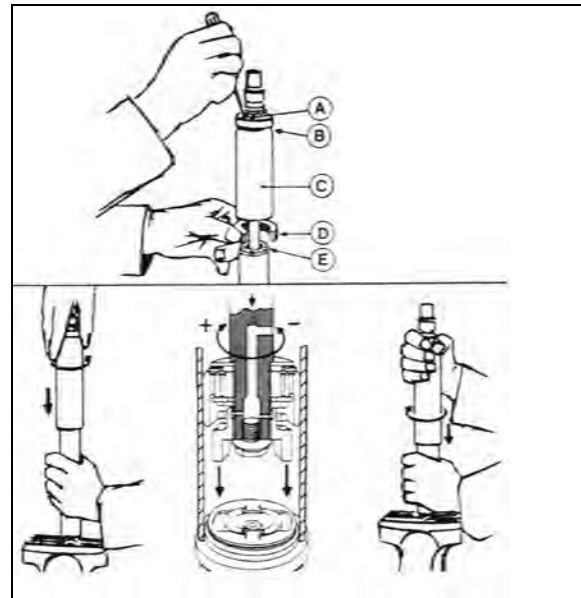

FIGURE 54: DAMPER
To adjust opening and closing cycle speed on damper (Figure 54):
2. Fully close the damper while turning the dust cap or piston rod slowly CCW until it is felt that the cams of the adjusting nut engage in the recesses of the foot valve assembly (Figure 54).
*In Figure 54, if there is an indentation (B) in the dust cap (C) and the cover shows two holes (A), the damper is fitted with a bump rubber (D). If so, fully extend the damper and insert a round bar or screwdriver through the holes. Push the bump rubber down and remove. Remove the split plastic collar (E) (if fitted) from the piston rod.*
*Where a bump rubber was installed, refit same inside the dust cap and by fully closing the damper, the rubber will seat again at top of the dust cap. Refit the split plastic collar E (Figure 54).*